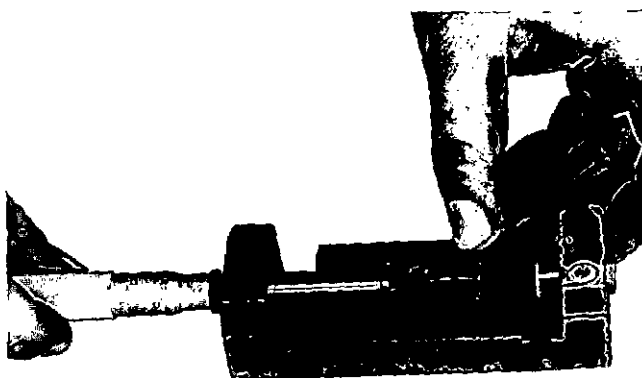

Fig. 1-23 (V10182). Adjust The Cutting Tool.
- b. Adjust the micrometer to the correct value. See Table 1. Put the cutting tool in the micrometer set-block. Hold the cutting tip of the tool against the hardened pad of the set-block, Fig. 1-23. Loosen the set-